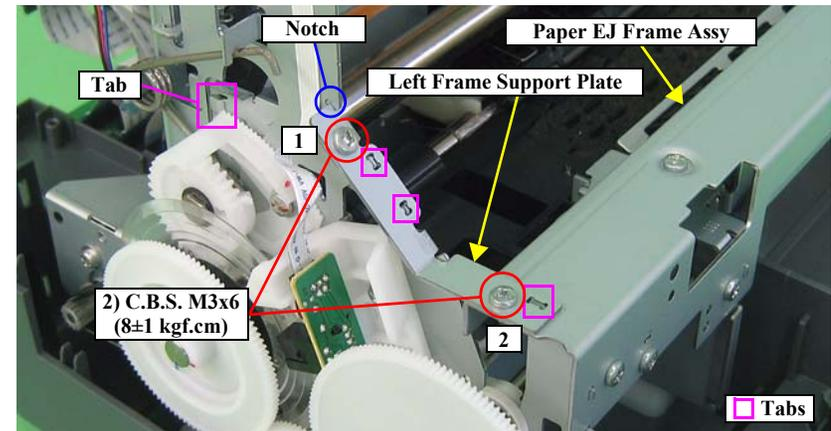

Figure 3-58. Removing the Left Frame Support Plate
- Insert the Left Frame Support Plate into the notch on the Main Frame. See Figure 3-58 (p.63)
- Align the two tabs on the Main Frame and the tab on the Paper EJ Frame Assy with the three positioning holes on the Frame Support Plate (Left). See Figure 3-58 (p.63)
- Align the tab (rear side) of the Left Frame Support Plate with the outside of the Left CR Shaft Mounting Plate. See Figure 3-58 (p.63)
- Tighten the screws in the order shown in Figure 3-58